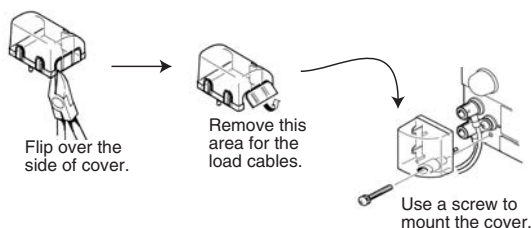

Fig. 3-6 Attaching the output terminal cover
1. Attach the output terminal cover as shown in Fig. 3-6.